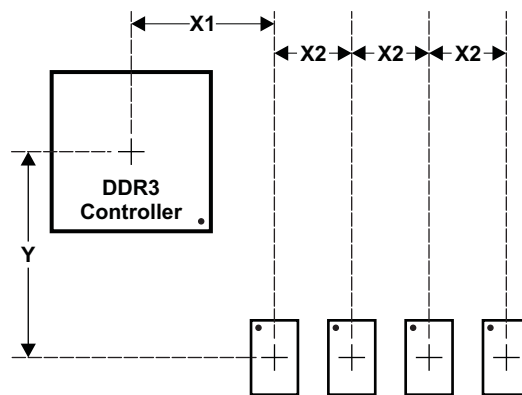

Figure 8-59. Placement Specifications
Figure 8-59 shows the required placement for the processor as well as the DDR3 devices. The dimensions for this figure are defined in Table 8-67. The placement does not restrict the side of the PCB on which the devices are mounted. The ultimate purpose of the placement is to limit the maximum trace lengths and allow for proper routing space. For a 16-bit DDR memory system, the high-word DDR3 devices are omitted from the placement.
- (1) For dimension definitions, see Figure 8-59.
(2) Measurements from center of processor to center of DDR3 device.
(3) Minimizing X1 and Y improves timing margins.
(4) w is defined as the signal trace width.
(5) Non-DDR3 signals allowed within DDR3 keepout region provided they are separated from DDR3 routing layers by a ground plane.